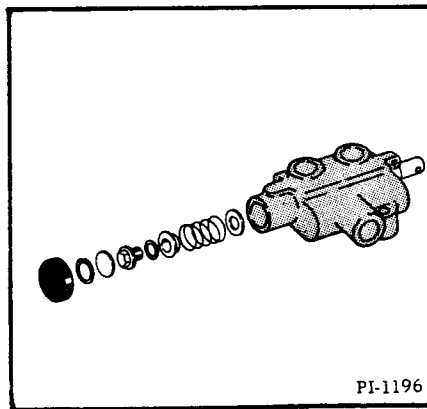

Fig. 13 Removing Internal Parts
(1) From the back of the valve remove the rubber bonnet, the large snap ring and the stop disc (Fig. 13).
(2) Remove the spring assembly screw, the centering spring lock washer, the stop collar, the centering spring and the stop washer (Fig. 13).